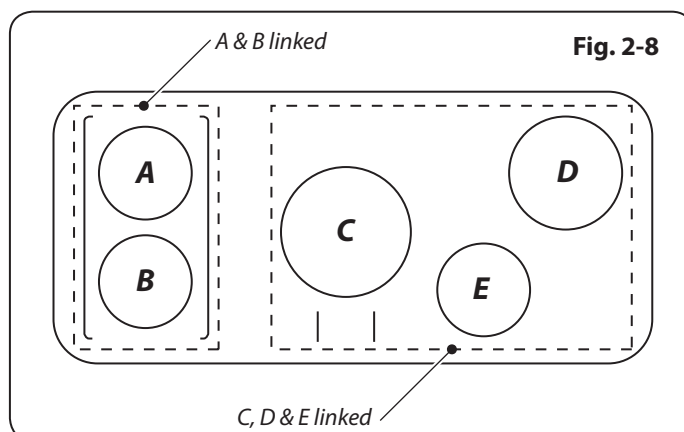

Fig. 2-9
**Fig. 2-9** shows the hob layout. Zones A and B are linked together as are zones C, D and E.
**Note:** The griddle should comprise of an induction friendly, flat bottom, large enough to cover zones A and B of the hotplate heating area (**Fig. 2-9**).